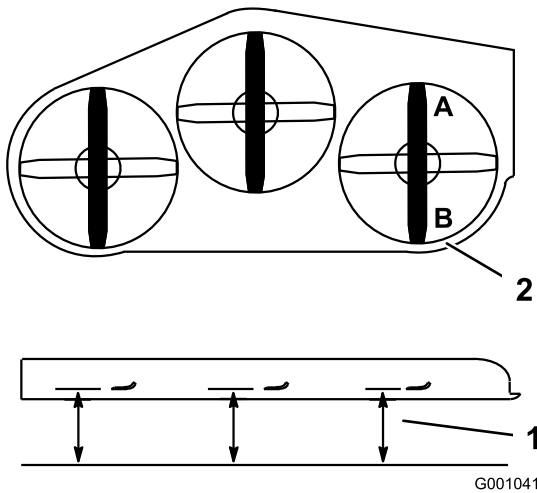

Figure 112
1. Position the **right** blade front-to-rear (Figure 112).
2. Measure the right blade at the **A** location, from a level surface to the cutting edge of the blade tip (Figure 112).
4. Measure the right blade at the **B** location, from a level surface to the cutting edge of the blade tip (Figure 112).
6. The mower blade should be 6 to 10 mm (1/4 to 3/8 inch) lower at position **A** than at position **B** (Figure 112). If it is not correct, proceed to the following steps.